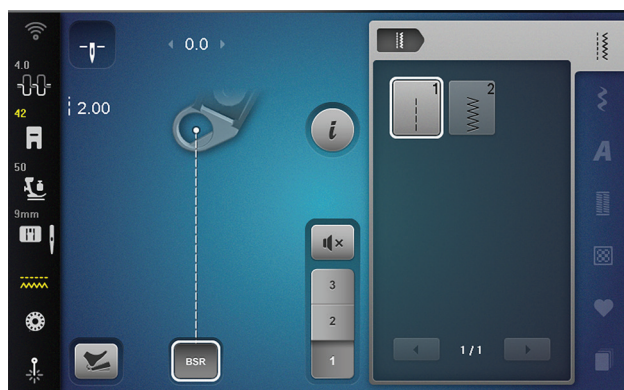

Fig. 21
- Mode 3:** (B 790 ULTRA, 790 PRO, 770 QE PRO, 770 QE PLUS only) (Fig. 21) Used for free-motion basting. Basting stitches can be set to either 2 stitches per inch (SPI) or 4 SPI.
1. Select Straight Stitch #1 (Fig. 21).